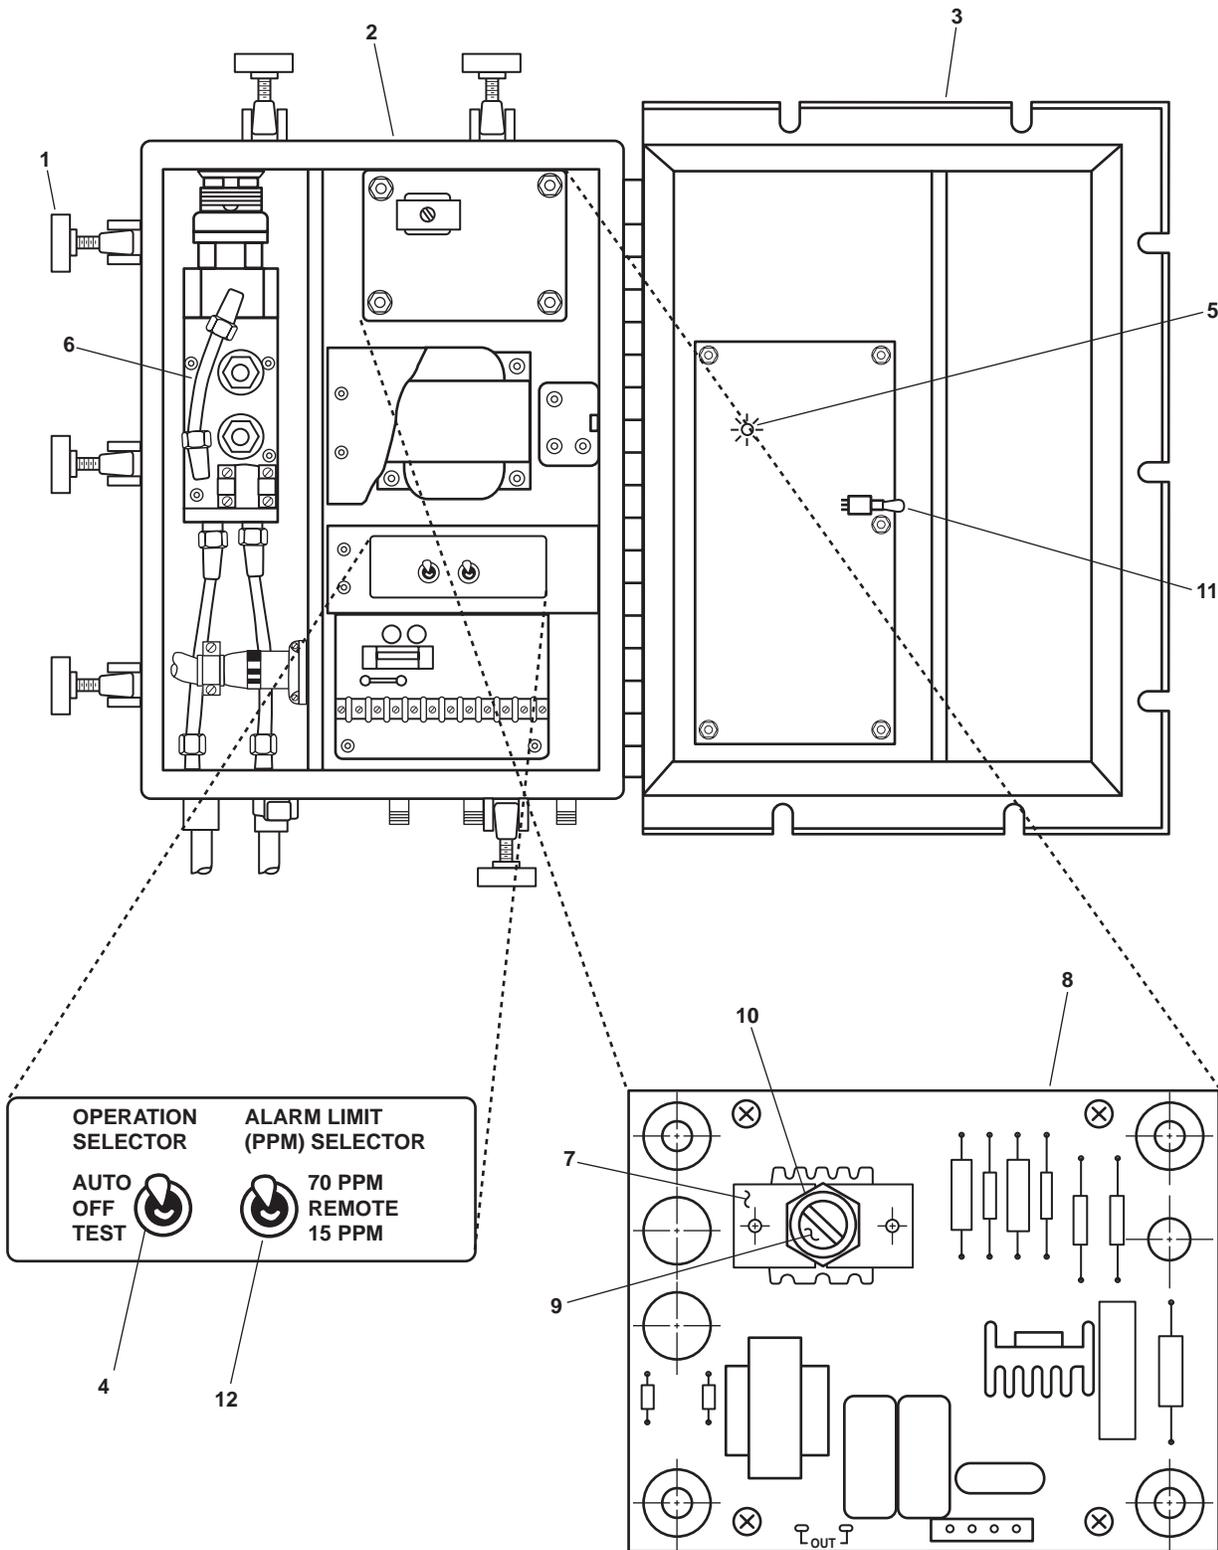
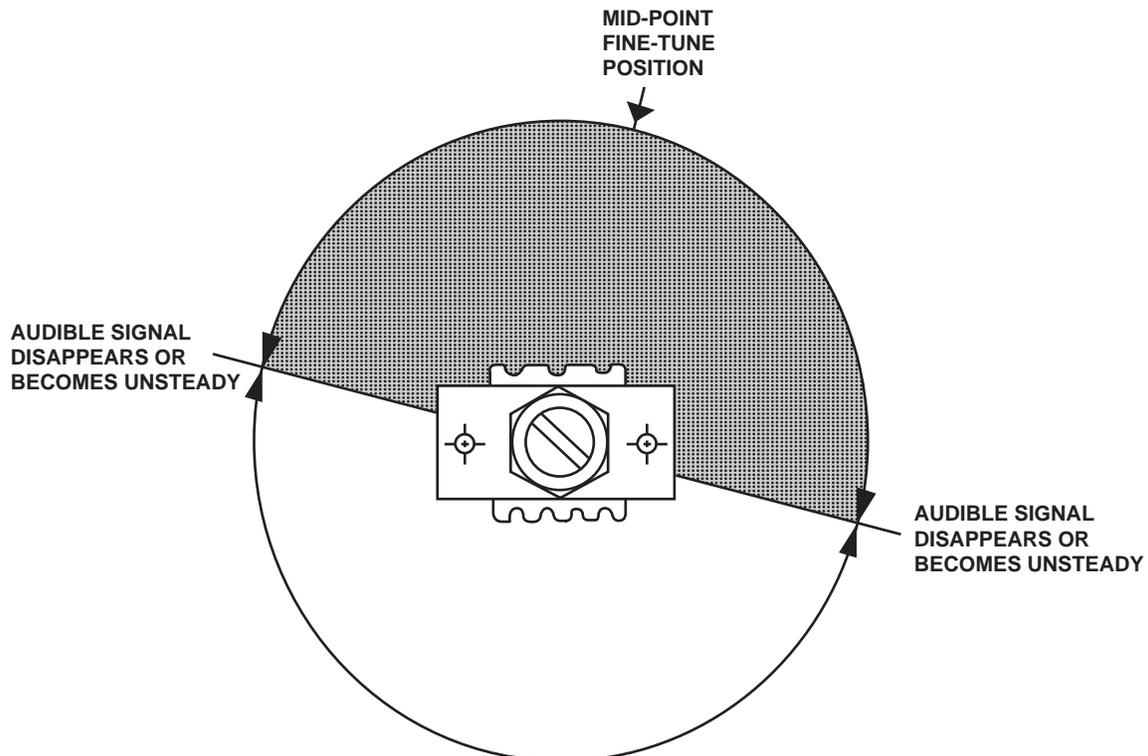

Figure 1. Sampling/Sensor Assembly Controls
Figure 3. Ultrasonic Vibrator (UVA) Adjustment, Audible Method
1. Loosen the seven hand nuts (figure 1, item 1) securing the sampling/sensor assembly (figure 1, item 2) and open the door (figure 1, item 3).
2. Verify that the OPERATION SELECTOR switch (A1S1) (figure 1, item 4) is in the AUTO position.
4. Verify that the OCM system is operating by observing the red LED A1DS8 (figure 1, item 5) on the back of the Processor Printed Circuit Board (PCB).
5. Observe fluid flow through the clear plastic tubing (figure 1, item 6) located on the front of the Sample and Detection Sub-assembly (SDA).
6. Locate the oscillator transformer (figure 1, item 7) on the generator PCB (figure 1, item 8), and place the screwdriver tip into the oscillator core screw (figure 1, item 9).
7. While holding the oscillator core screw (figure 1, item 9) stationary, turn the oscillator core locknut (figure 1, item 10) counterclockwise one complete turn to allow free adjustment of the plastic oscillator core screw.
8. Hold the processor PCB TEST/CHECK switch A1S3 (figure 1, item 11) on the processor PCB in the TEST (DOWN) position.
9. Alternately turn the oscillator transformer core screw (figure 1, item 9) clockwise and counter clockwise to determine the limits of the audible coarse adjustment range. Refer to figure 3.
10. Using a marking pen, make temporary markings on the metal portion of the oscillator transformer (figure 1, item 7), indicating the limits of the coarse adjustment range.
11. Turn the oscillator transformer core screw (figure 1, item 9) to the center of this coarse adjustment range, which is the fine-tuned position.
12. Release the processor PCB TEST/CHECK switch (A1S3) (figure 1, item 11).
13. Tighten the oscillator core locknut (figure 1, item 10) by turning it clockwise while holding the oscillator transformer core screw in the fine-tune position using the wide blade 1/16 inch thick insulated handle screwdriver.
2. Set the OPERATION SELECTOR switch (A1S1) (figure 1, item 4) in the sampling/sensor assembly (figure 1, item 2) to the AUTO position.